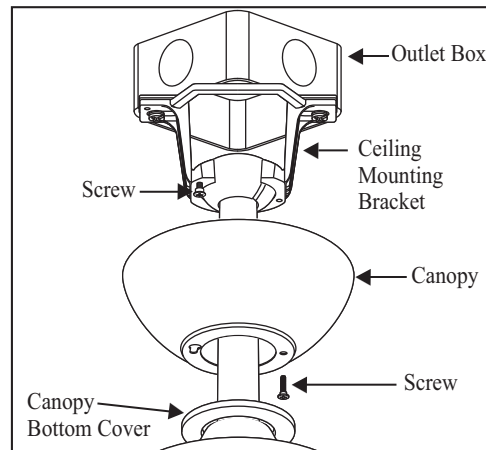

Figure 15
2. Slide the canopy up to mounting bracket and place the key hole on the canopy over the screw on the mounting bracket, turn canopy until it locks in place at the narrow section of the key holes. (Figure 15)